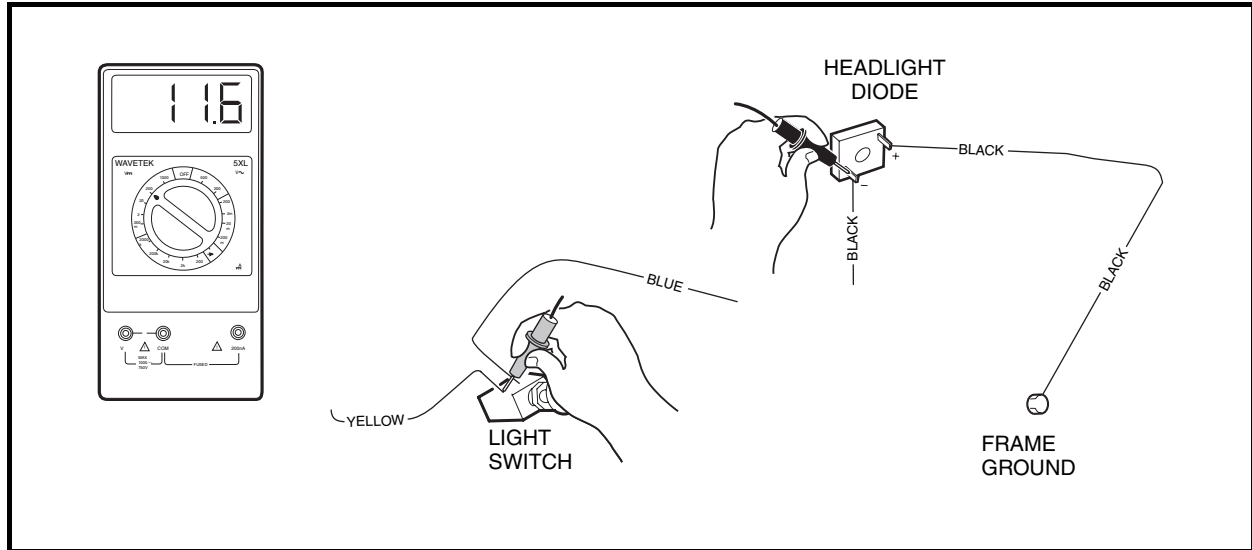

Figure 11-56 Headlight Diode Circuit Test
4. Use a multimeter set on 20 volts DC and connect the red (+) probe to the light switch terminal with the yellow wire (**Figure 11-56, Page 11-47**).
5. Loosen the black wire connector (on the end of the long black wire) at the headlight diode assembly just enough to maintain the connection and yet expose part of the metal terminal in the connector. Place black (–) probe on the connector (**Figure 11-56, Page 11-47**). **See following CAUTION.**